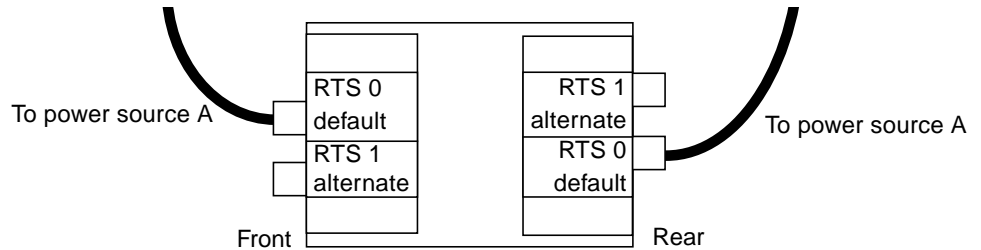

FIGURE 3-3 Two RTU Assemblies and One AC Power Source
- In configurations with two RTU assemblies and one AC power sources there will be two cables to connect, one in the front (on the left), and one in the rear of the system (on the left) (FIGURE 3-3).